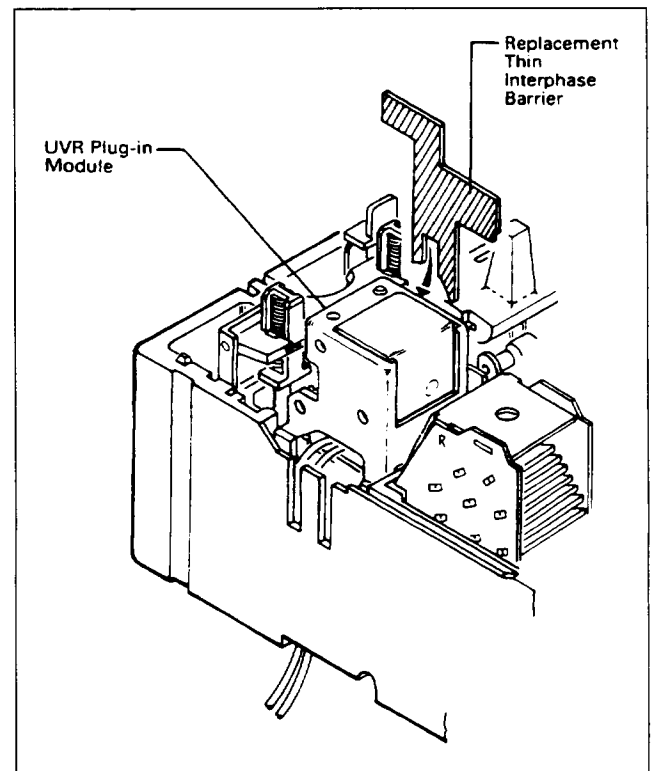

Fig. 2-8. Interphase Barrier Installation
- g. Slide thin replacement interphase barrier into position between thick interphase barrier and molded bearing (see Fig. 2-8).